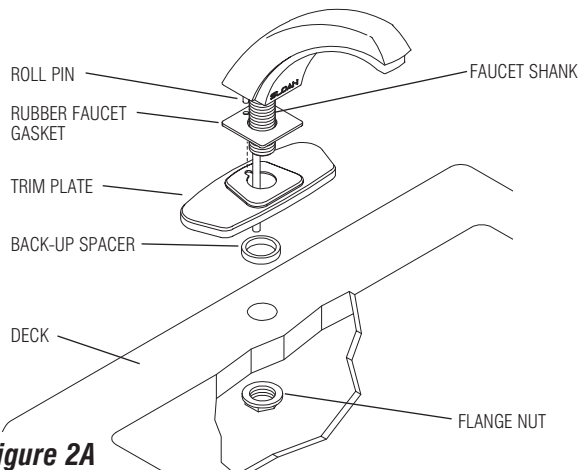

Figure 2A
Step 1A — ETF-662-A Single Hole 4" Trim Plate (Figure 2A)